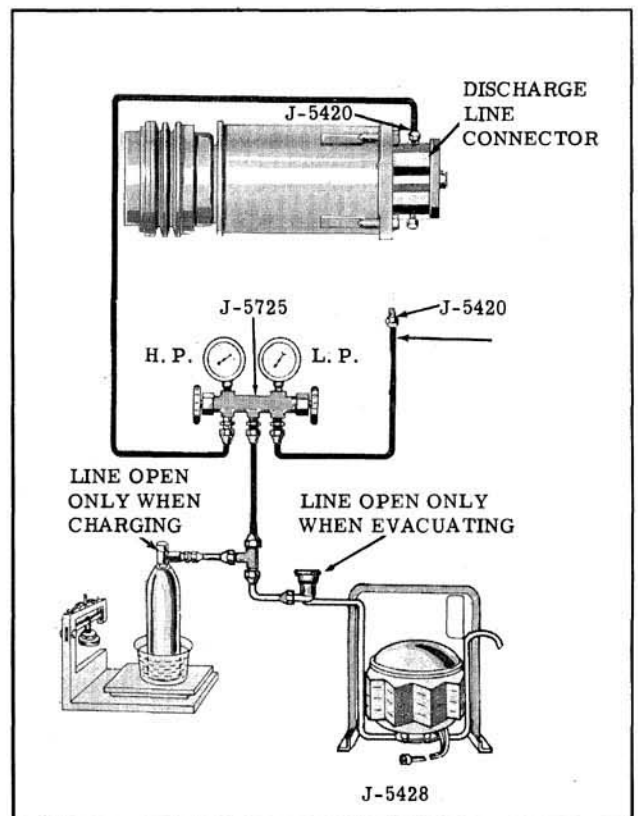

Fig. 14-136 Adding Refrigerant Partial Charge
3. Install gauge set as shown in Fig. 14-136.